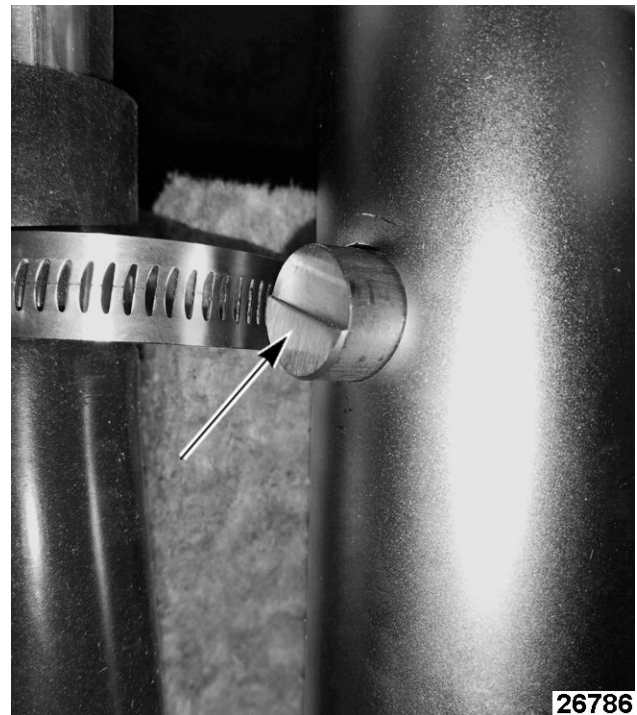

Fig. 120
3. Rotate damper camshaft (using a pair of channel locks) until indicator on the end of the camshaft is at diagonal (Fig. 120).